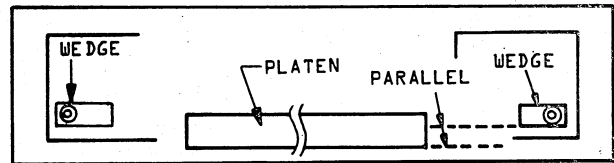

FIGURE 5-24. CAM AND WEDGE POSITION
5. Check that the adjustment cams are installed as shown in Figure 5-24. The wedges must be installed parallel to the adjustment cams.